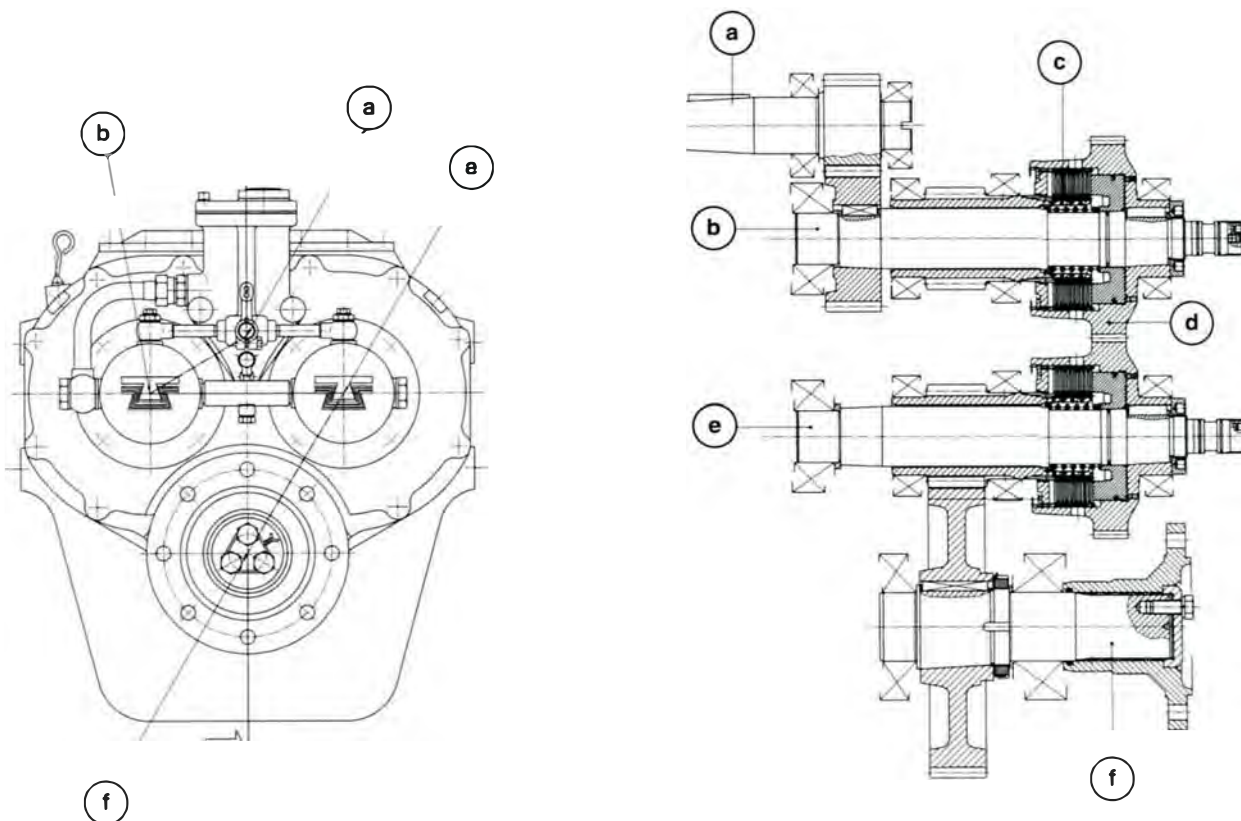

FIG. 1
- Forward gear (fig. 1) is transmitted through the clutch unit fitted on the shaft (e).
- Forward gear (fig. 1): shaft (b) transmits drive through the gear (d) to the shaft (e) holding the forward gear clutch. If this is inserted, drive is transmitted from the input shaft (a) to the shaft (b), to the shaft (e) and finally to the outfeed shaft (f).